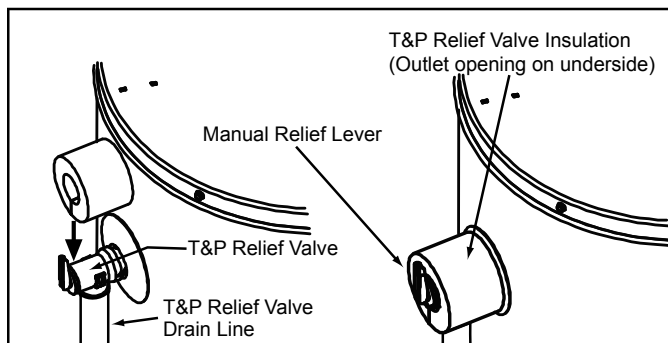

Figure 17.
Locate the temperature and pressure relief valve on the water heater (also known as a T&P relief valve). See Figure 17.
2. Spread the slit open and fit the insulation over the T&P relief valve. See Figure 17. Apply gentle pressure to the insulation to ensure it is fully seated on the T&P Relief Valve. Once seated, secure the insulation with duct tape, electrical tape, or equivalent. **Important:** The insulation and tape must not block the discharge opening or hinder access to the manual relief lever (Figure 17). Ensure a discharge pipe is installed into the T&P valve discharge opening per the instructions in this manual.